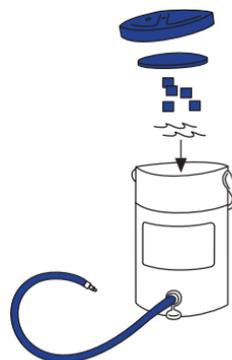

Figure 1
1. Before applying the Cryo/Cuff, prepare the cooler (Figure 1)